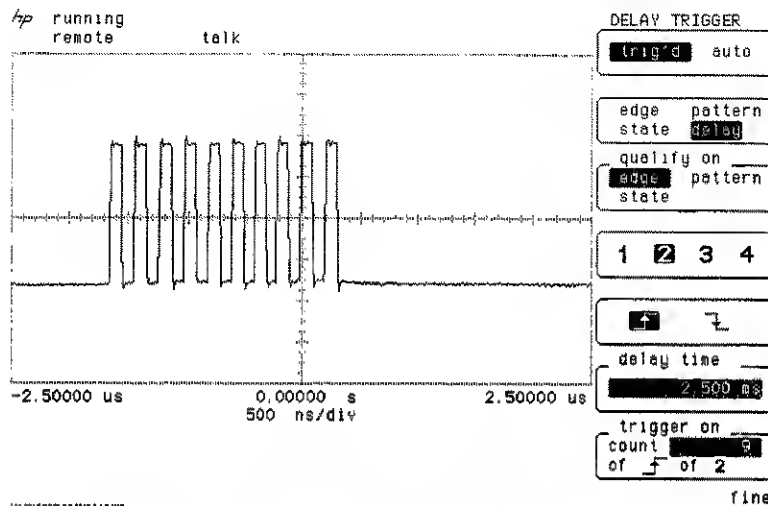

Figure 3-29. Ten Burst Pulse Triggered on Pulse 9
- Change the trigger on count to 9 (see figure 3-29).